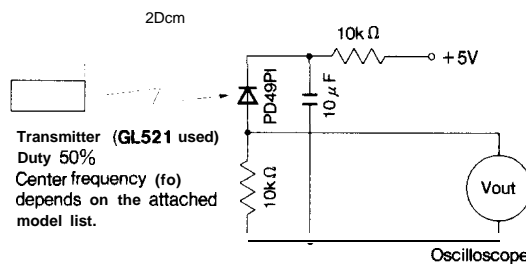
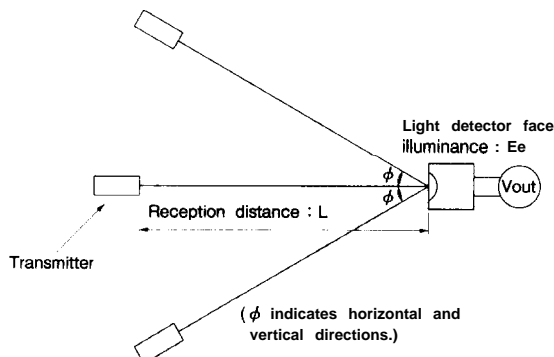

Fig. 1. Transmitter
Fig. 2. Standard optical system
*3 The burst wave as shown in the following figure shall be transmitted by the transmitter shown in Fig. 1.
Using the transmitter shown in Fig. 1, the output signal of the light detecting unit is good enough to meet the following items in the standard optical system in Fig. 2.
When $L=0.2$ to 8m , ${}^*E_e < 10\text{ lx}$ and $\phi = 0^\circ$ in Fig. 2, the output signal shall meet the electrical characteristics in the attached list.
When $L = 0.2$ to 6m , ${}^*E_e < 10\text{ lx}$ and $\phi \leq 30^\circ$ in Fig. 2, the output signal shall meet the electrical characteristics in the attached list.
When $L=0.2$ to 4m , ${}^*E_e \leq 300\text{ lx}$ and $\phi = 0^\circ$ in Fig. 2, the output signal shall meet the electrical characteristics in the attached list.